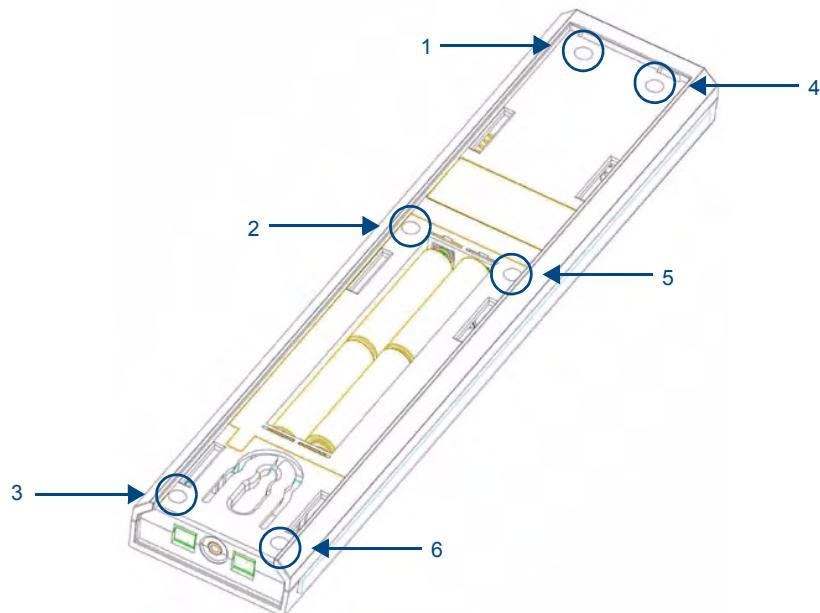

FIG. 7 6 screwpoints (battery compartment cover removed)
4. Remove the 6 screws shown in FIG. 7.